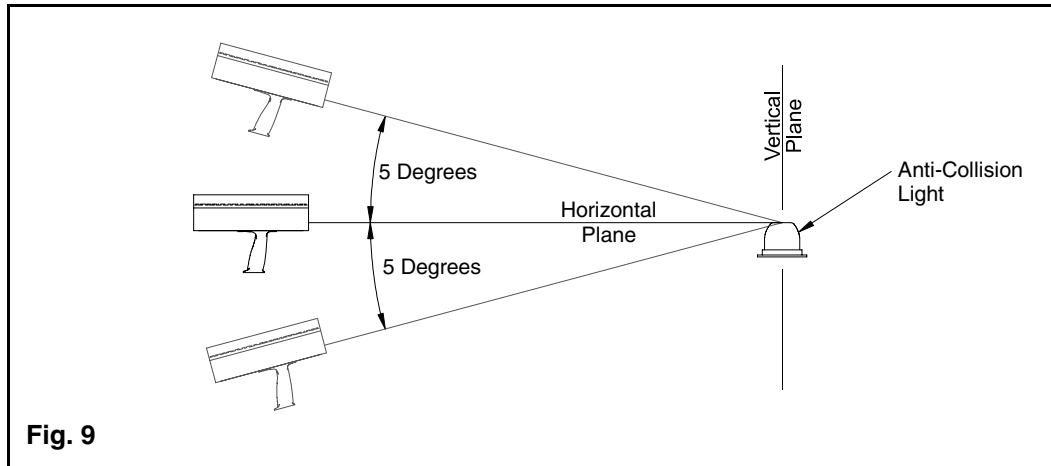

Fig. 9
4. **ACQUIRING THE STROBE LIGHT.** Turn Strobe on. **DO NOT LOOK DIRECTLY AT THE STROBE.** In order to obtain the correct reading, the sensor must be aimed directly at the strobe within +/- 5° of the strobe's horizontal plane (Fig. 9). Once the instrument begins displaying readings, adjust the aim slightly until a maximum reading is obtained.